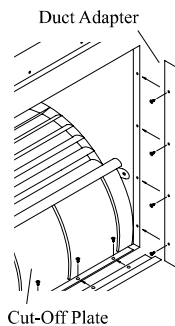

Fig. 1
- **Install Duct Adapters.** If desired, a 4 piece duct adapter is available as an optional accessory. Call 1-800-643-8341 to obtain these from the factory. Align the holes in the duct adapter to the holes in the blower opening and attach using the provided screws (see Fig. 1). Repeat for all four sides. Note: All 4 pieces are identical except for models 5000SD & N55/65S which have an offset piece which attaches to the bottom of the outlet. To install this offset piece, remove the screws holding the cut-off plate and slide the offset duct adapter between the blower opening and the cut-off plate. You may need to loosen other screws to do this. Line up the holes and secure with the screws previously removed.